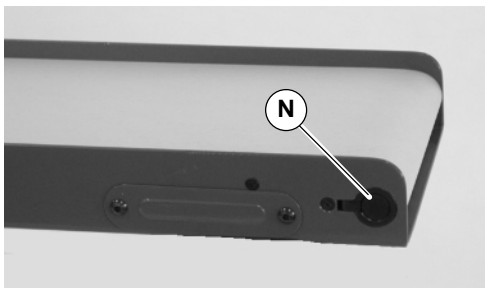

Figure 46
12. Install plastic plug (N of Figure 46).